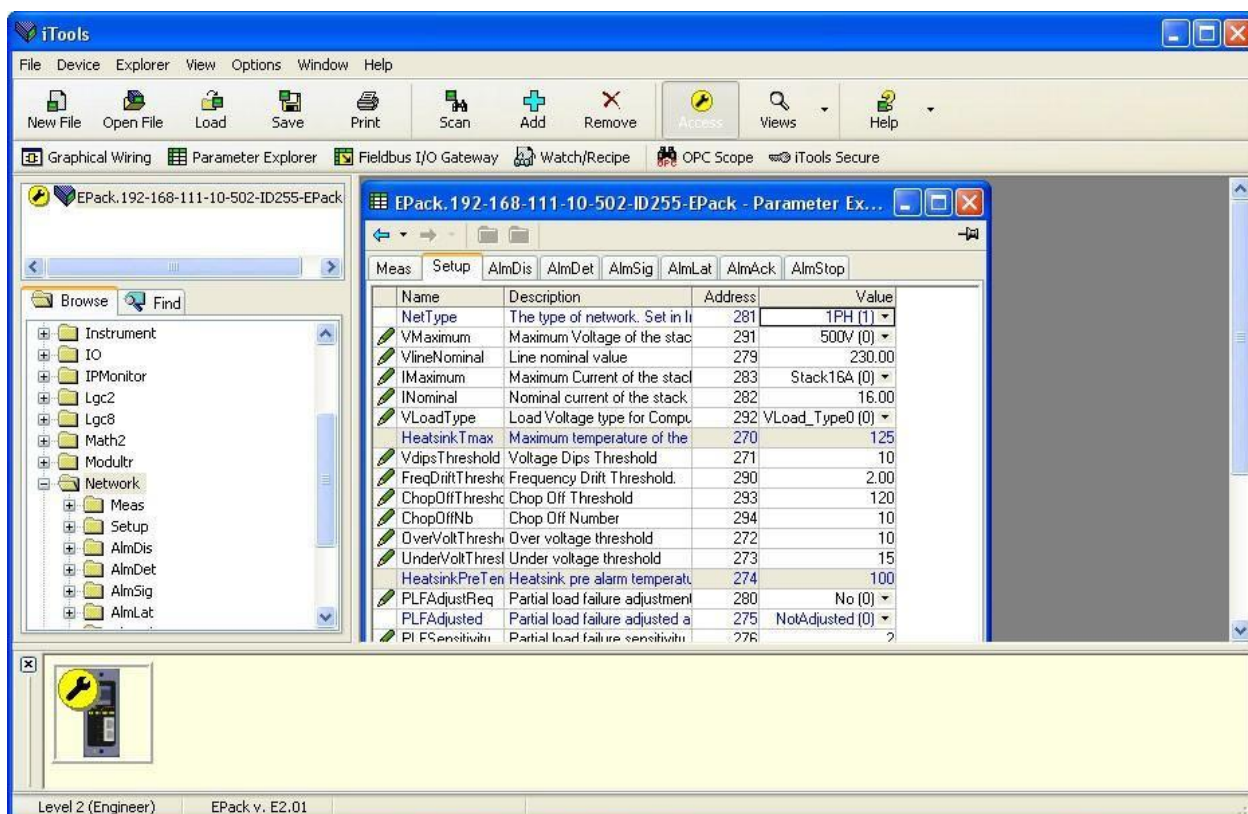
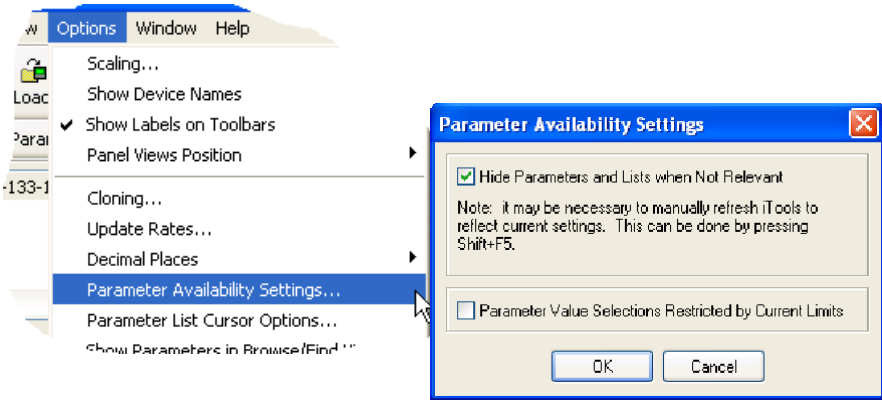

Figure 140 Parameter table example
Figure 143 Show/Hide parameters
In each case the function block parameters appear in the iTools window in tabular form, such as the example in Figure 140.
- 1. Parameters in blue are non-editable (Read only). In the example above all the parameters are read only. Read/write parameters are in black and have a ‘pencil’ symbol in the ‘read/Write access column at the left edge of the table. A number of such items are shown in Figure 140, above.
- 2. Columns. The default explorer window (Figure 140) contains the columns ‘Name’, ‘Description’, ‘Address’ and ‘Value’. As can be seen from Figure 143, above, the columns to be displayed can be selected, to a certain extent, using either the ‘Explorer’ menu or the context menu. ‘Limits’ have been enabled for the example above.
- 3. Hidden Parameters. By default, iTools hides parameters which are considered irrelevant in the current context. Such hidden parameters can be shown in the table using the ‘Parameter availability’ settings item of the options menu (Figure 143). Such items are displayed with a shaded background.